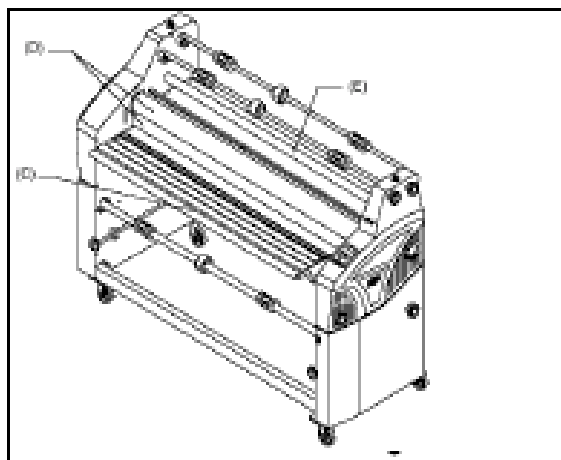

Fig. 15
D. FEED TABLE: (Figure 15) The Feed Table is used to position items for lamination. **The laminator will operate only when the Feed Table and Feed Table Latch are properly installed.**
E. MAIN ROLLERS: (Figure 15) Silicone rubber coated steel tubes compress the film to the items being laminated. The upper main roller can be heated. Heat is provided by an internal heating element. The main rollers are motor driven for ease of loading new film.
F. IDLER BAR: (Figure 15) The idler bars, located near each heat roller, are used to direct the film to the heat roller nip.